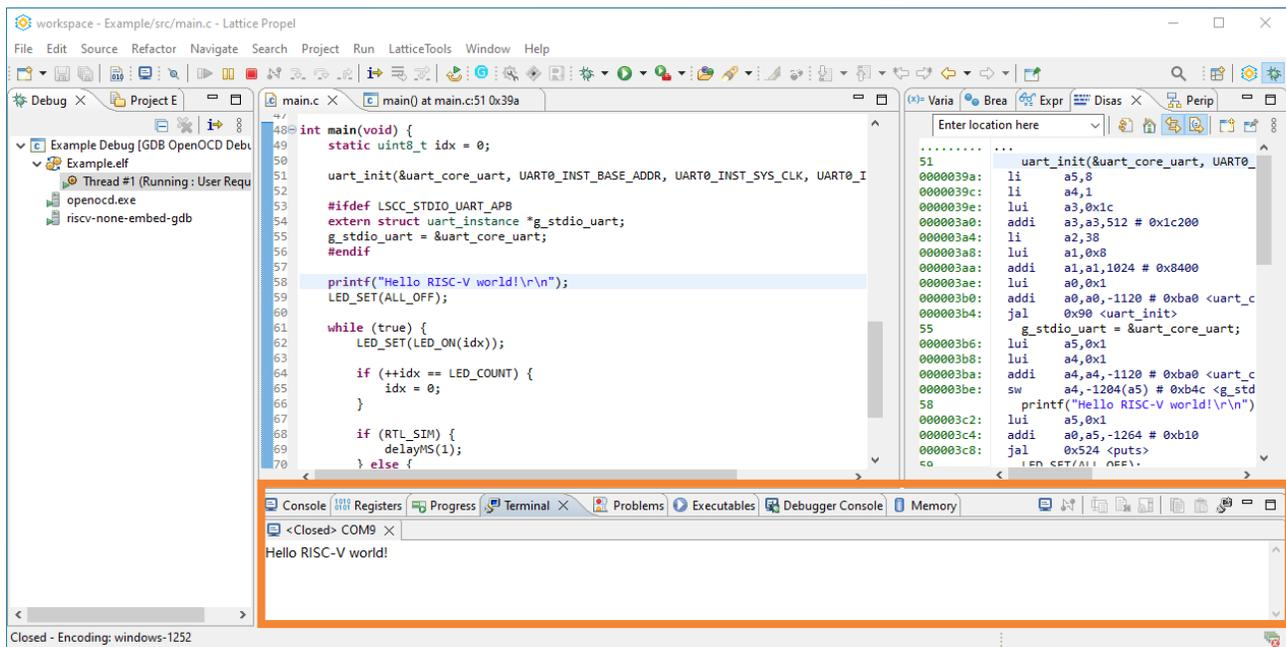

Figure 4.13. Run Result of Hello World Project
9. Click the **Resume** icon  on the toolbar. The serial terminal outputs **Hello RISC-V world!** (Figure 4.13).